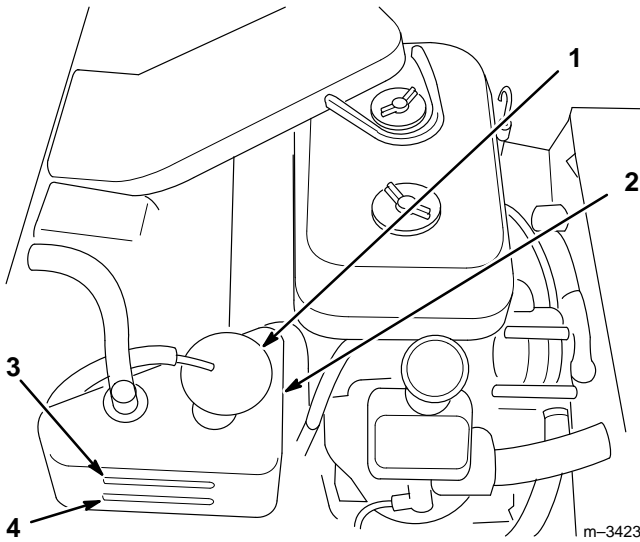

Figure 6
3. Check coolant level. Coolant should be between the two lines on the reserve tank when the engine is cold (Fig. 6).